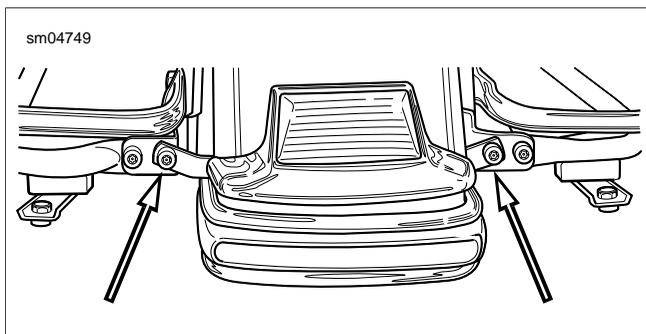

Figure 2-165. Rear Bumper Screws
7. At rear of motorcycle, remove inside screw (and flange nut) to release rear bumper bracket from saddlebag support bracket and saddlebag support rail. Repeat step on opposite side of motorcycle. See Figure 2-165.
6. Start inside screw (with flange nut) to fasten rear bumper bracket to saddlebag support bracket and saddlebag support rail. Repeat step on opposite side of motorcycle. See Figure 2-165.